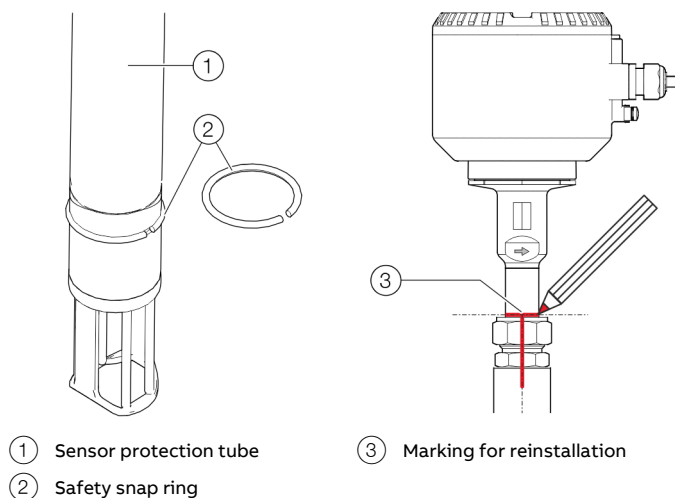
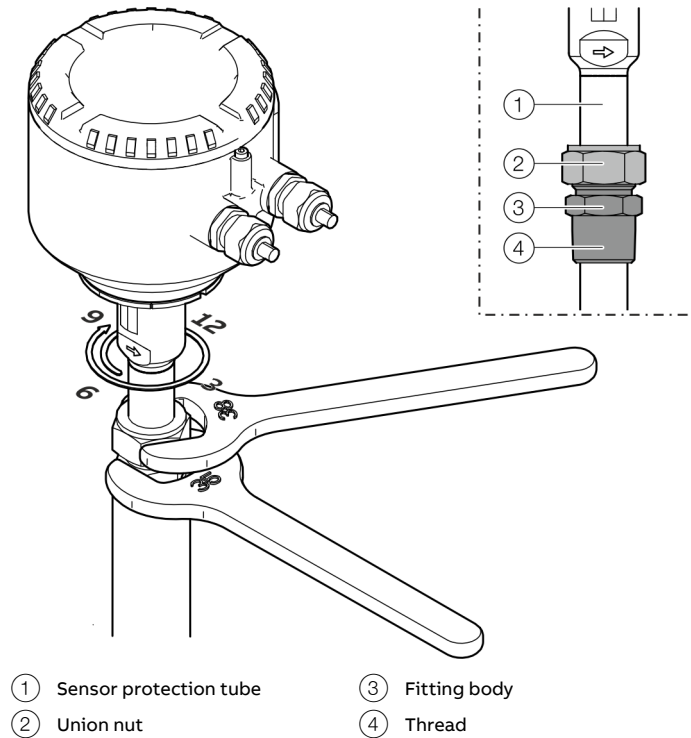

Figure 21: Snap ring and marking
Figure 22: Tighten sensor
2. Insert the safety snap ring using mounting pliers (see Figure 21, Pos. ②).
5. Using a suited marker pen, mark the orientation and height of the sensor on the sensor protection tube, compression fitting and the welding adapter (see Figure 21, pos. ③). The marking on the union nut is also used as a starting position (6 o'clock position, see Figure 22) for the tightening of the compression fitting
3. Using a suited marker pen, mark the orientation and height of the sensor on the sensor protection tube, compression fitting and the welding adapter (see Figure 21, pos. ③).
1. Make sure that the safety snap ring is inserted in the provided snap ring groove (see Figure 21, pos. ②).